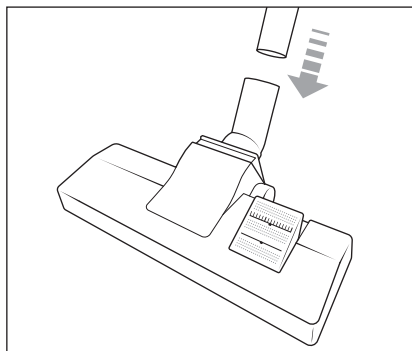

Fig. 2
- 2) Push the telescopic suction tube **16** into the floor brush **14** until it sits firmly in the floor brush **14** (see Fig. 2).